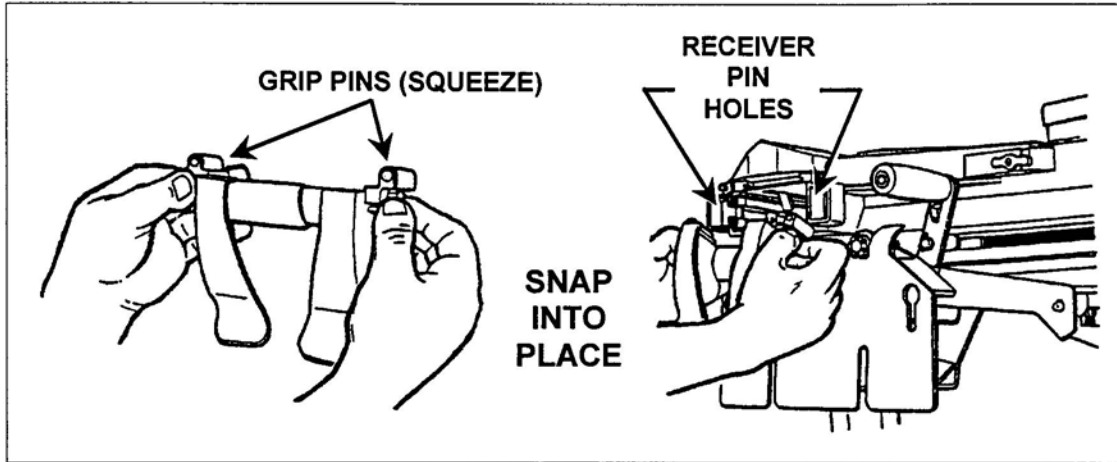

Figure 10. Attachment of the feed throat assembly.
- 7. Attach the feed throat assembly (Figure 10).